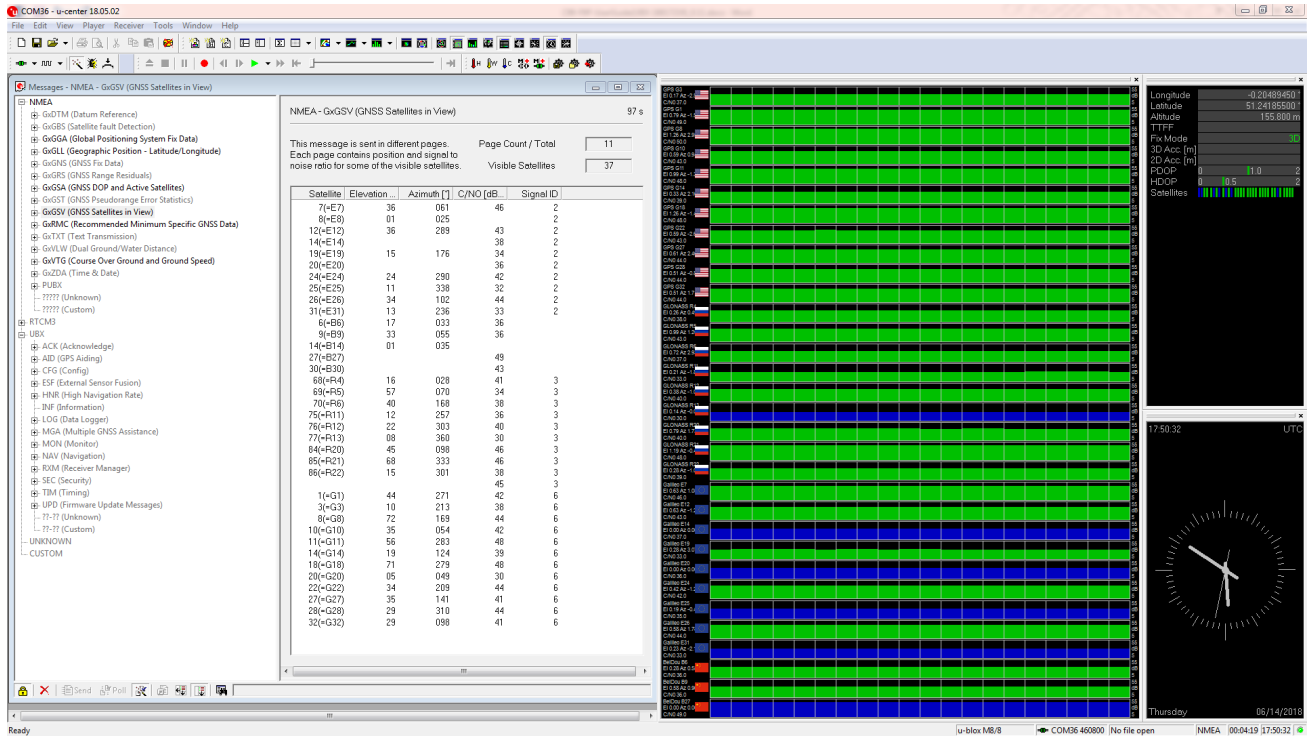

Figure 3: u-center showing a view of the ZED-F9P default operation
- The TP LED on the C099-F9P board will blink in blue color. Figure 3 below shows a typical u-center view with active satellite signal levels.